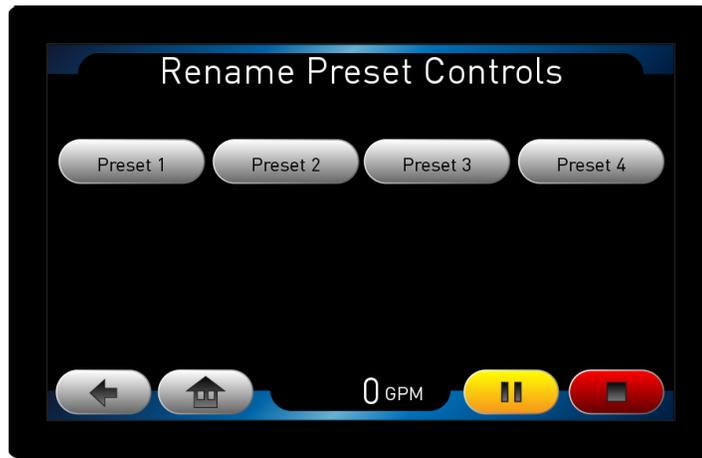

Figure 47. Name Presets page
5. Select the “Name Presets” button to get to the Name Presets page (Figure 47).